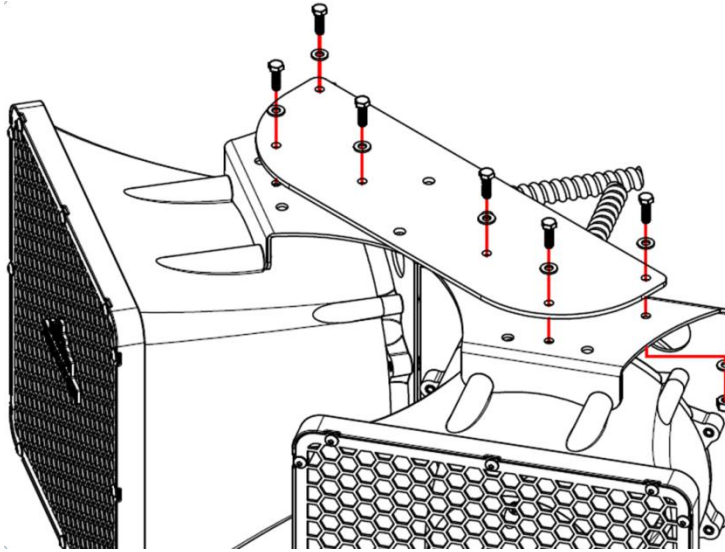

Figure 5: Attaching a Dual Mount Plate
- 1) To mount two TCPA-10 systems to the same wall mounting bracket, use an optional Dual Unit Mounting Adapter. Attach the dual mount plate to the TCPA-10 mounting brackets with the hardware provided in the kit (Figure 5).